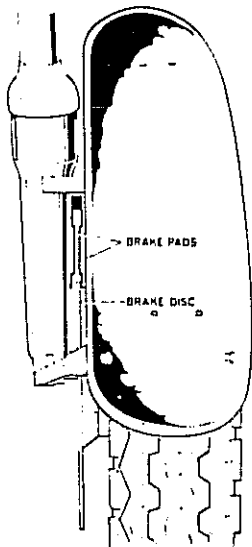

Fig. H9 Guiding brake disc between brake pads
- 5 Offer the wheel with both dust covers in position and, with care, guide the disc between the brake pads. See Fig. H9.